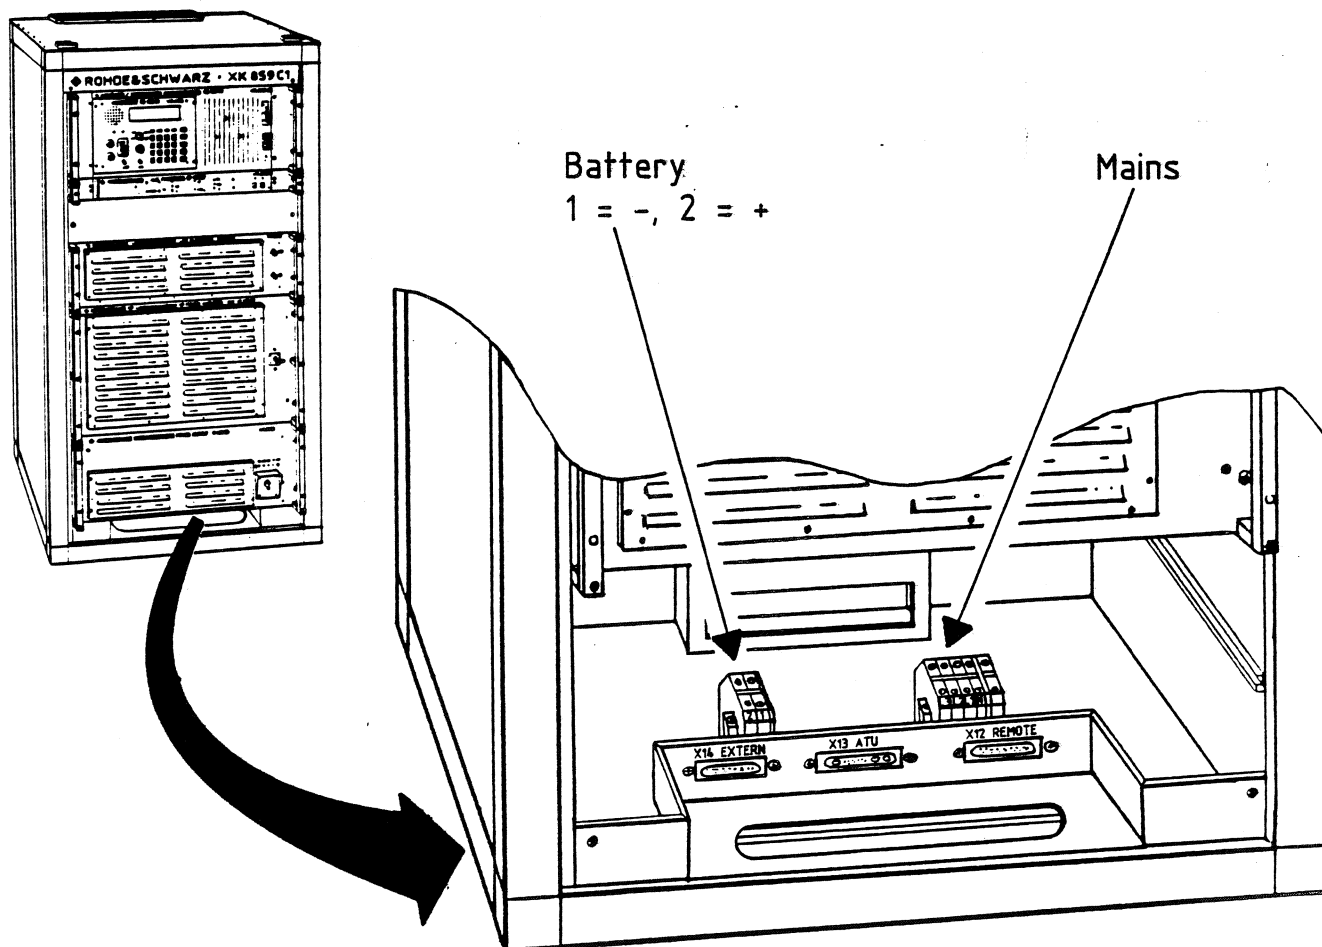

Fig. 2.5 Arrangement of External Interfaces on Rack
Fig. 2.5 below illustrates the arrangement of the terminal blocks and connectors of the external interfaces on the base-plate of Rack KG 859C1 or KG 859C4.
2. Make the connections for 380 VAC on the four-way terminal block X5 acc. to Fig. 2.5 and Fig. 2.12. Attach an appropriate pull-relief for the cable.
4. Make the connections for 24 VDC on the two-way terminal block X6 acc. to Fig. 2.5 and Fig. 2.12. Attach an appropriate pull-relief for the cable.